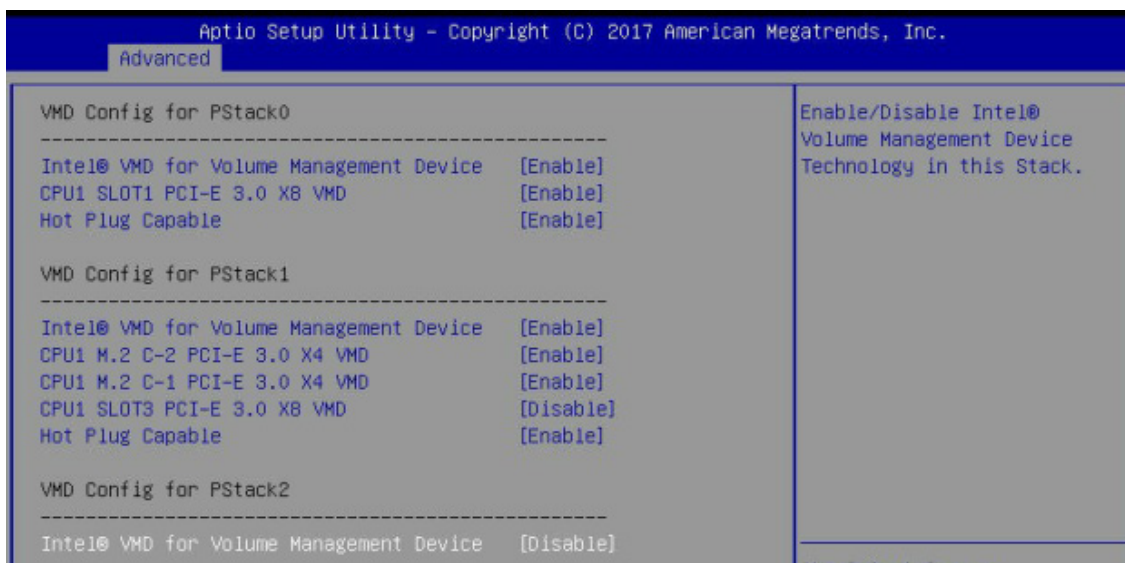
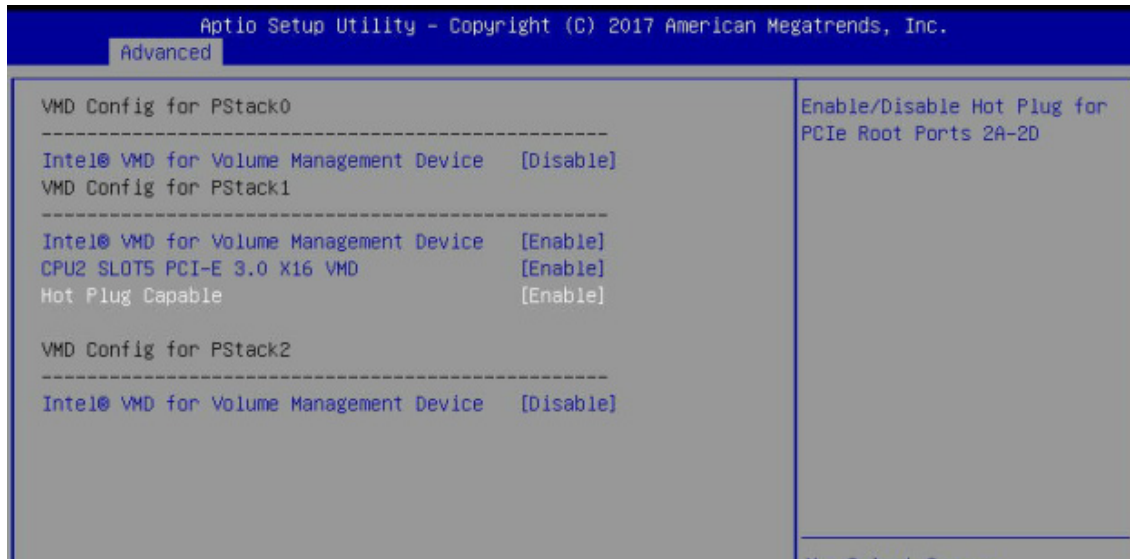

Figure 6-11. BIOS, Enabling CPU1 Example
Figure 6-12. BIOS, Enabling CPU2 Example
- Repeat steps 3 and 4 for each PStack# on each CPU to be enabled or disabled. In this example, we enabled CPU1 Slot1 (Figure 6-11) and CPU2 Slot5 (Figure 6-12) (four U.2 form factor SSDs), as well as CPU1 M.2 C-1 and CPU1 M2. C-2 (two M.2 form factor SSDs)